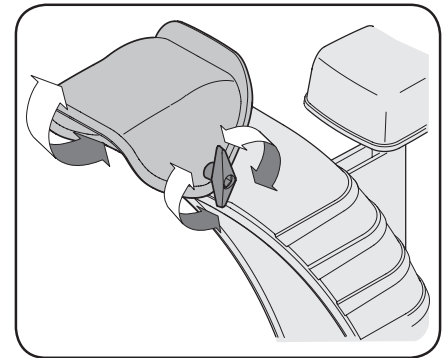

Figure 2-46
1. Loosen wing knob found on left side of chute assembly. See Figure 2-46.